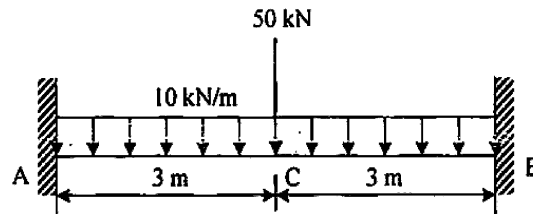

Fig. 2
- (b) Determine the fixed end moments for the fixed beam loaded and supported as shown in Fig. 2. [6]